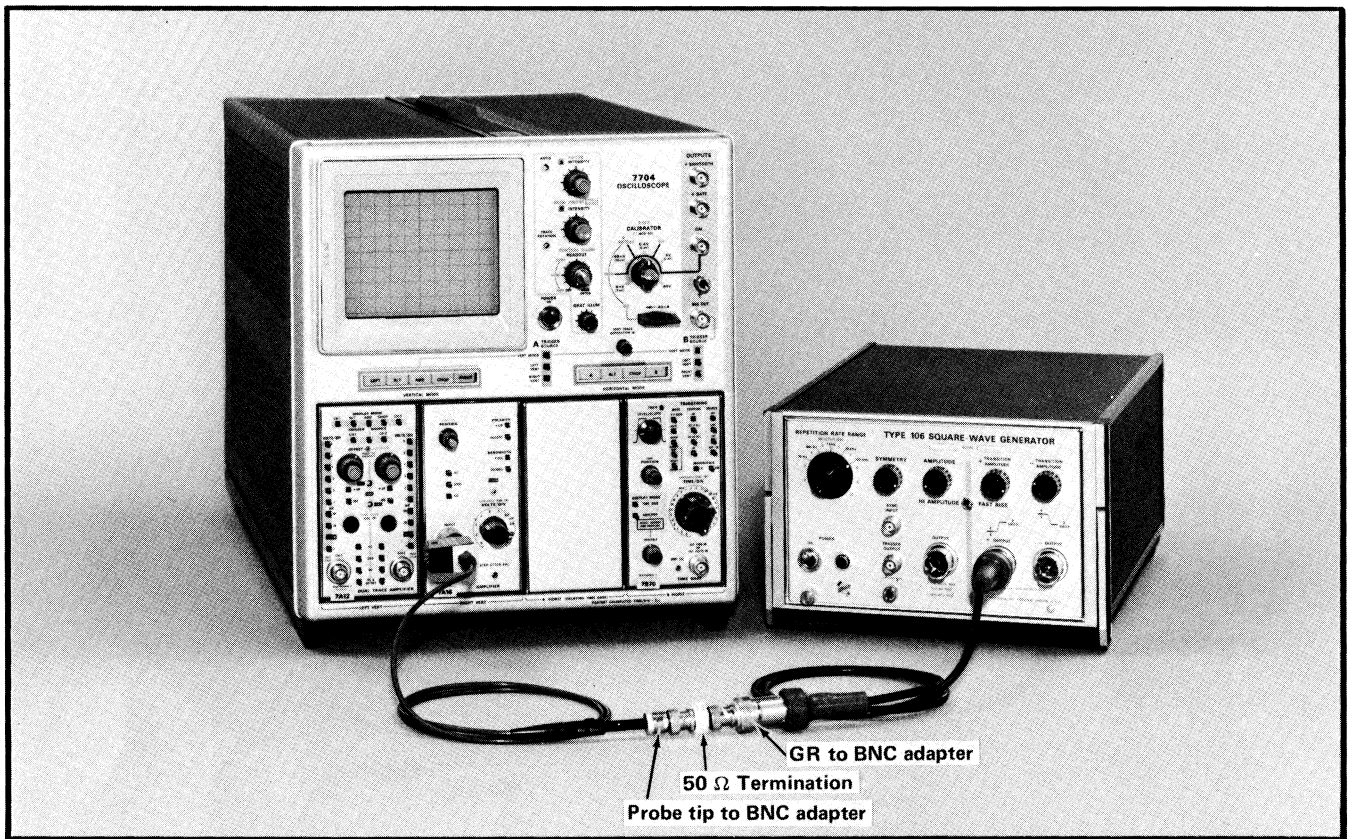

Fig. 4-4. Equipment setup for step 6 (probe response waveform).
i. Connect the probe tip by means of a probe tip to BNC adapter to the 50 Ω termination. See Fig. 4-4 for this setup.